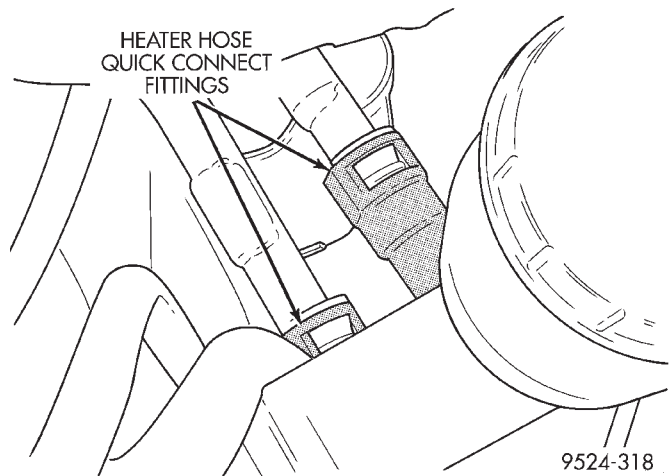

**Fig. 57 Heater Hose Connection At Engine**
- (1) Drain engine cooling system. Refer to Group 7, Engine Cooling.
- (2) Using thin slide-jaw pliers, pinch quick connect fitting in, of hose to be removed (Fig. 57).